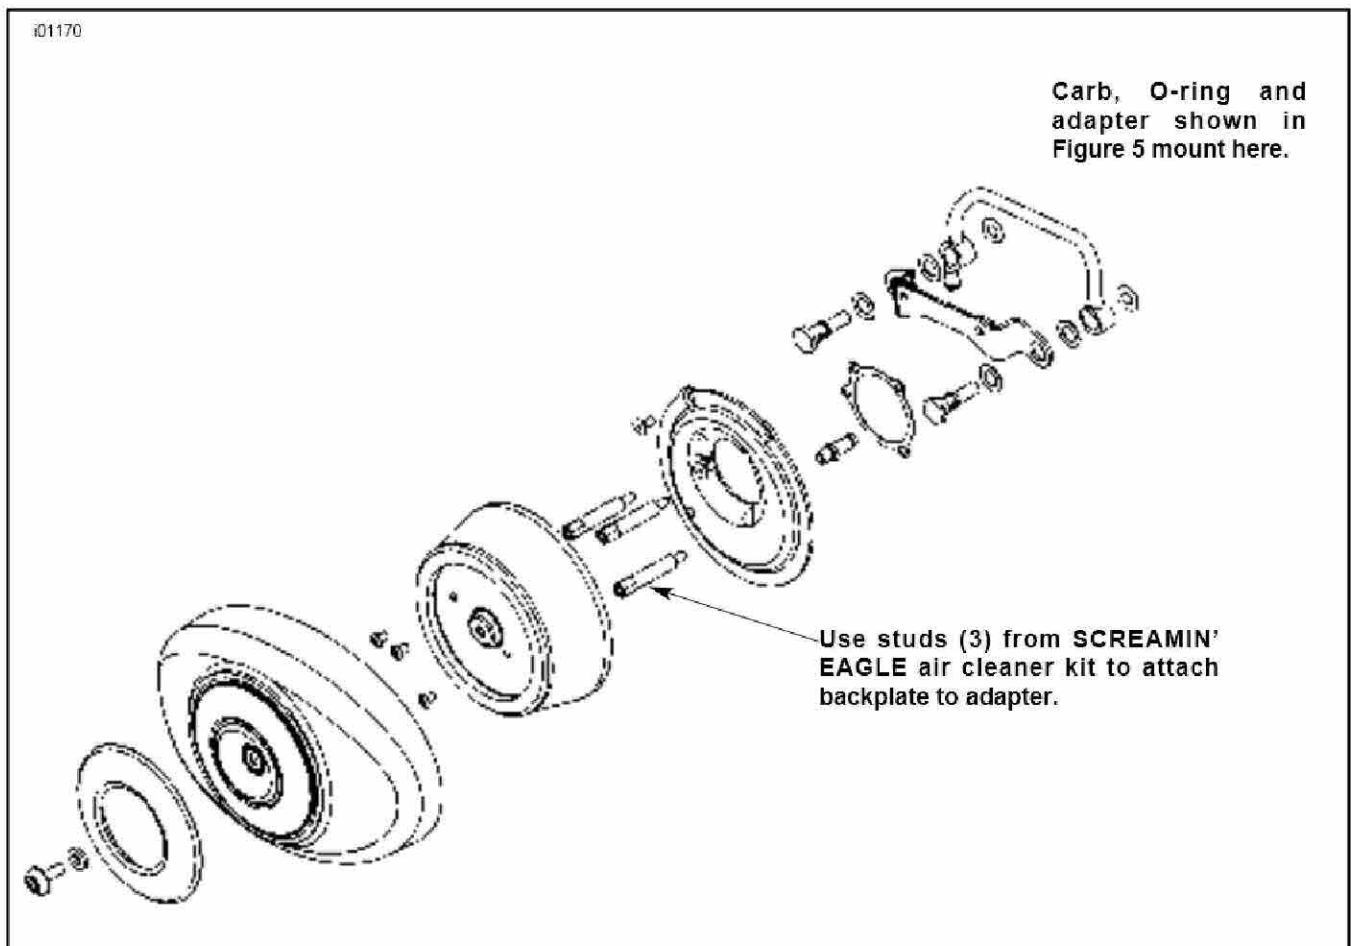

Figure 7. Twin Cam 88™ Carb. And Air Cleaner
- See Figure 7 on next page. Insert the large diameter o-ring into the adapter. Attach the adapter to the **SCREAMIN' EAGLE** backplate with the three studs from air cleaner kit. The studs must be inserted through mounting holes in backplate and gasket on back side of backplate and finally threaded into adapter.
1. See Figure 7. Install SCREAMIN' EAGLE air cleaner following the instruction given in the SCREAMIN' EAGLE air cleaner Instruction Sheet.